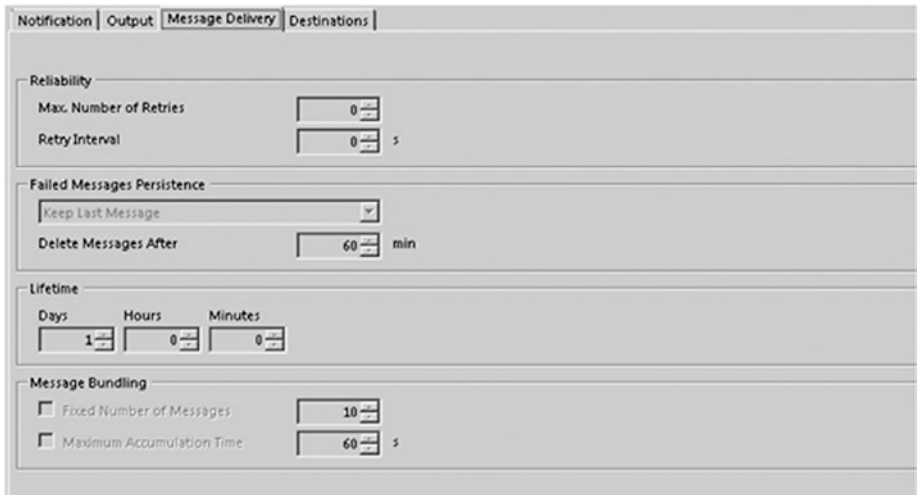

Figure 7-147. Message delivery time configuration
- Specify the conditions for message delivery in the Message Delivery tab, as shown in Figure 7-147.